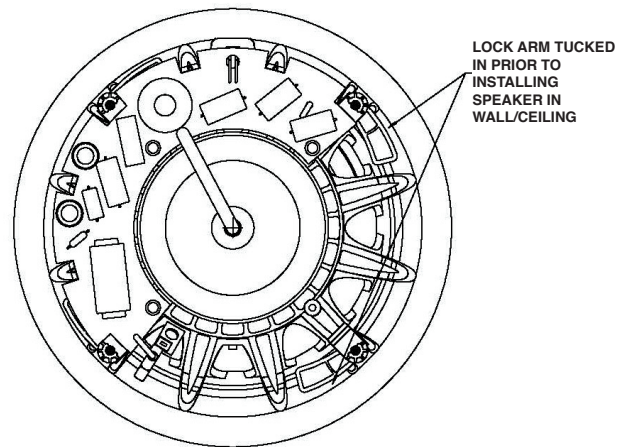

Figure 5
- Make sure the rotating lock arms are positioned inwards (Figure 5) so that your speaker fits into your cutout hole.